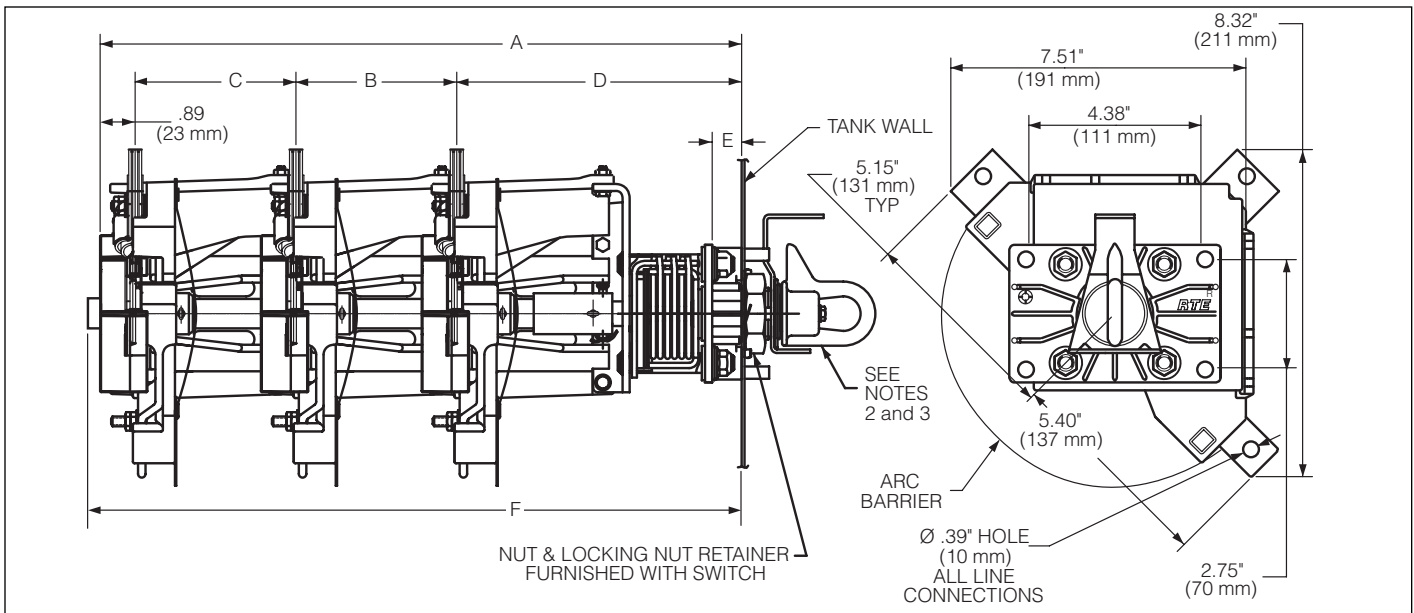

Figure 4.
1. Dimensions given in Figure 4 and Table 3 are for reference only.
Dimensional Information for Figure 4 (Inches/mm)